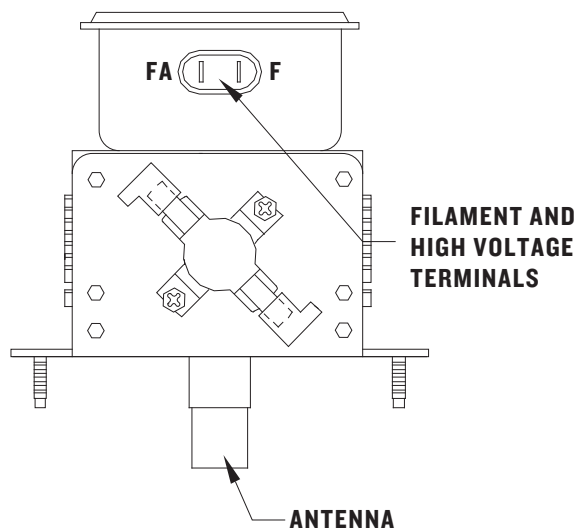

Figure 35: Magnetron
Figure 35. Magnetrons supply the RF energy at 2.45 GHz and begin to oscillate when they are supplied with approximately 4.1 kVDC at approximately .350 mA. During operation each magnetron will output a nominal 1 kW of power.
3. Isolate the magnetron from the circuit by removing the wires from the F and FA terminals (Figure 35).
4. An ohmmeter connected between the filament terminals (F, FA) should indicate a reading of less than 1 ohm. Figure 35.